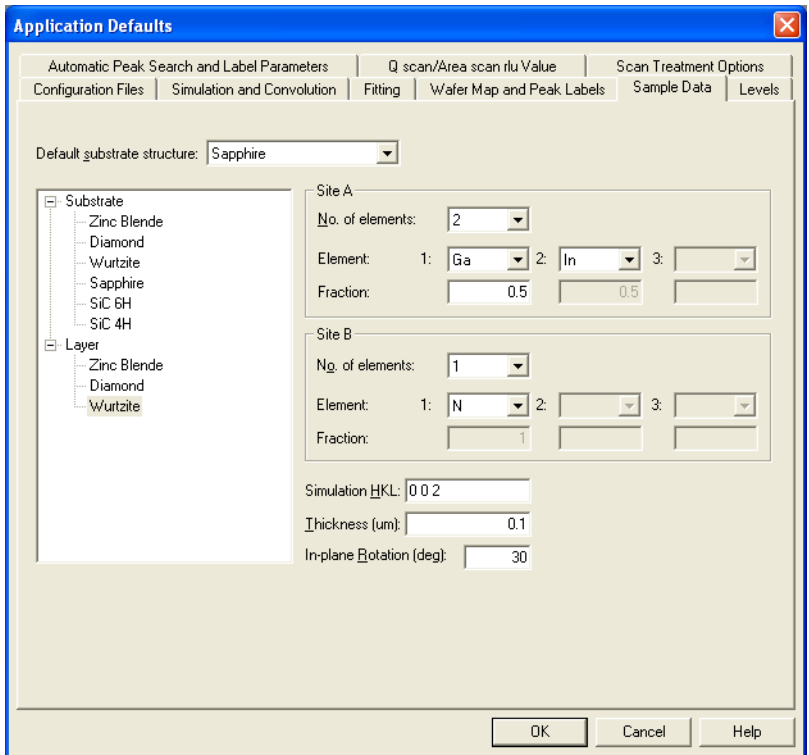

Figure 5-12: The Default Sample Data Tab Edited for a Wurtzite Layer
- Enter the “In plane rotation” as 30, the tab should be as shown in Figure 5-12.